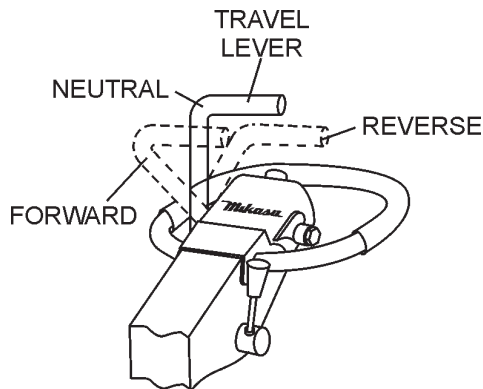

**Figure 20. Throttle Lever (Fast)**
- Grasp the compactor's hand grip (Figure 20), and move the engine throttle lever (Figure 20) quickly to the **fast** position.